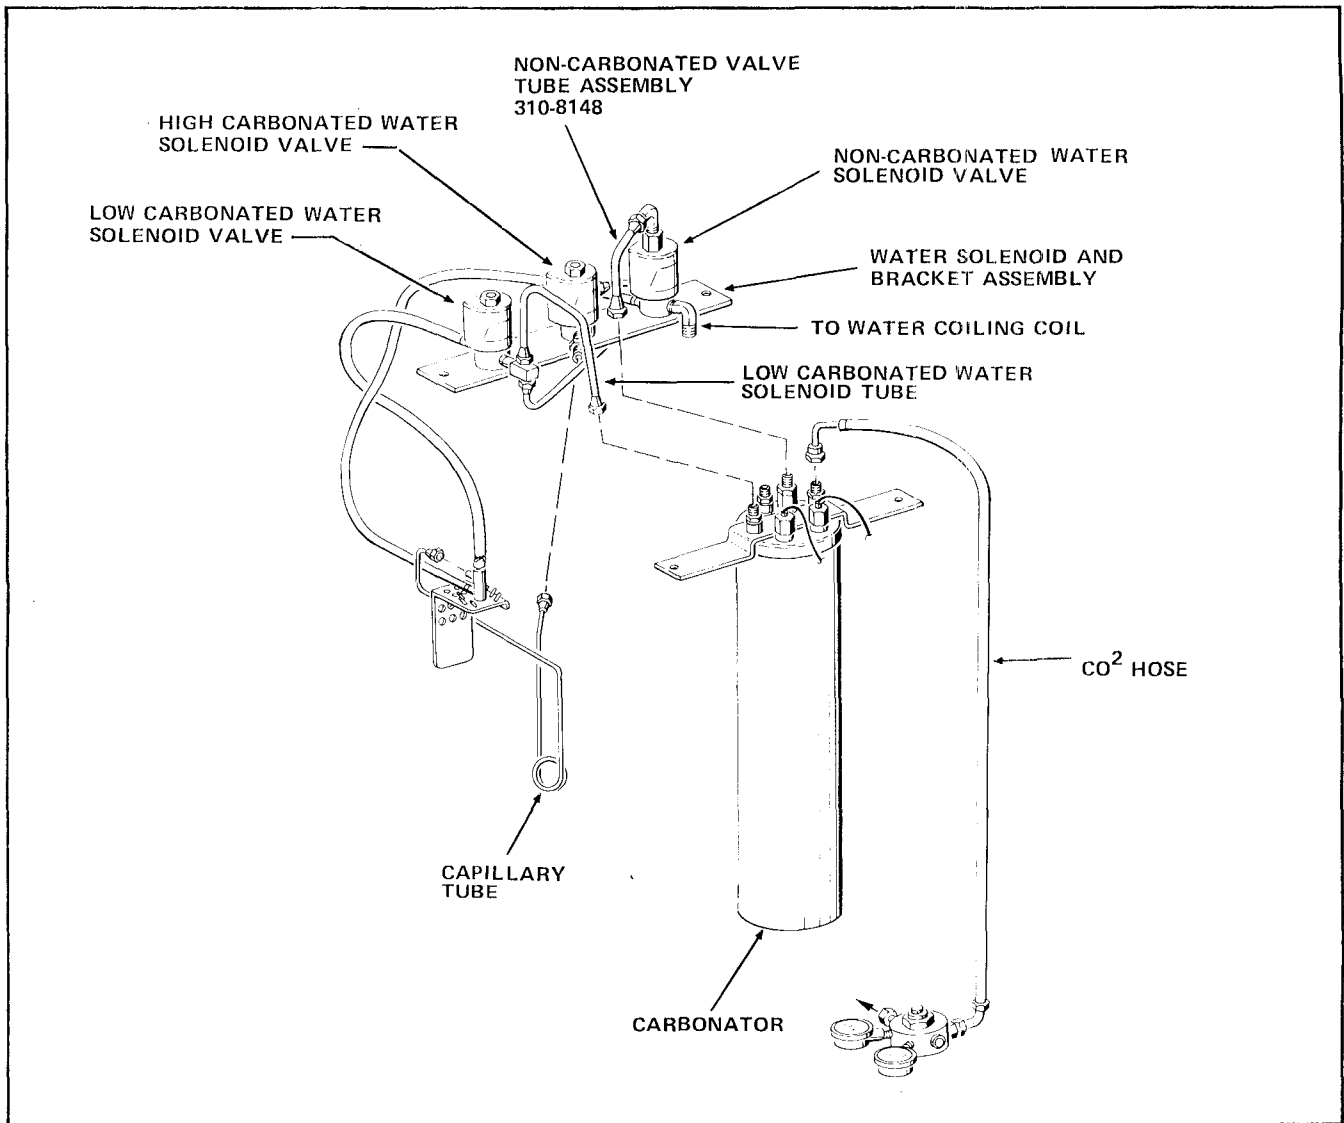

FIGURE 8
- a. Disconnect the Low-Carbonated Water Solenoid Valve Tube at the Carbonator. See Figure 8.
- b. Disconnect the Capillary Tube leading to the Syrup Discharge Spout Assembly and Mounting Bracket from the High-Carbonated Water Valve. See Figure 8.
- c. Disconnect the Non-Carbonated Water Solenoid Valve from the Water Bath Water Cooling Coil. See Figure 8.
- d. Disconnect the Non-Carbonated Valve Tube Assembly at the Carbonator. See Figure 8.
- e. Disconnect and remove the Non-Carbonated Valve Tube Assembly from the Non-Carbonated Water Solenoid Valve and replace with Non-Carbonated Valve Tube Assembly, Part Number 310-8148, included in the Kit. See Figure 8.
- b. Connect the Non-Carbonated Water Solenoid Valve to the Water Cooling Coil Assembly. See Figure 8.
- c. Connect the Non-Carbonated Valve Tube Assembly to the CARbonator. See Figure 8.
- d. Connect the Capillary Tube from the Syrup Discharge Spout and Mounting Bracket to the High-Carbonated Water Solenoid Valve. See Figure 8.
- e. Connect the Low-Carbonated Water Solenoid Valve Tube to the Carbonator. See Figure 8.